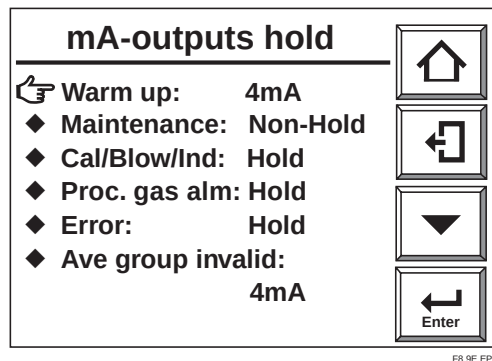

Fig. 8.9 Current output hold
- 1) From "mA-output setup" on the Commissioning display, select "mA-outputs hold" and touch the Enter key. A display like Fig. 8.9 is displayed.